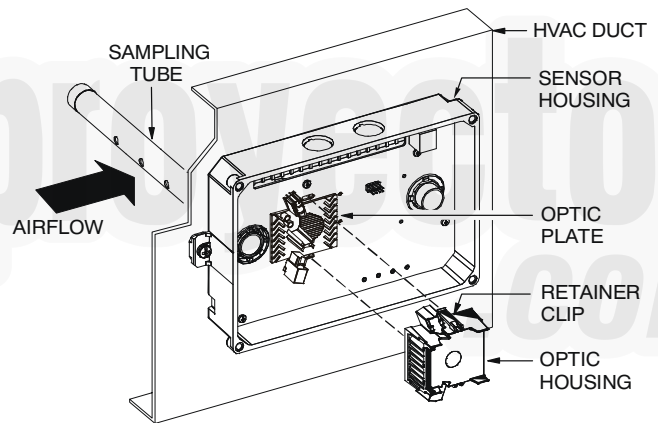

Fig. 53 - Sensor Cleaning Diagram
1. Disconnect power from the duct detector then remove the sensor's cover. See Fig. 53.